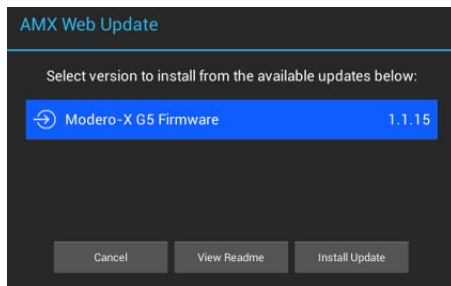

FIG. 98 AMX Web Update - Available updates
3. The web update utility will display the available update versions (FIG. 98):